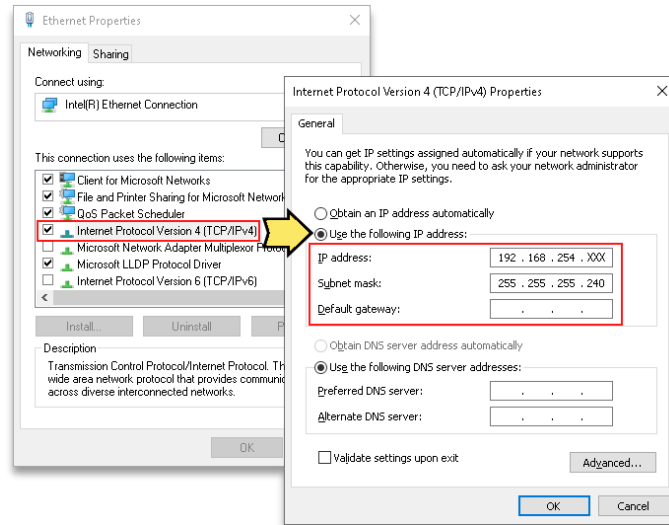

Figure 6:
Step 2: The IP address of the **LAN2** port of the PIB is fixed to 192.168.254.241 (Supra Command Center) and 192.168.254.246 (DCMB Web UI). Make sure that the **LAN2** IP and the laptop network interface IP are on the same subnet. As shown in **Figure 6**, the "XXX" part of the IP Address must range from 240 to 255 and cannot be set to 241 and 246. Additionally, the **Subnet mask** value for the laptop network interface should be set to 255.255.255.240.